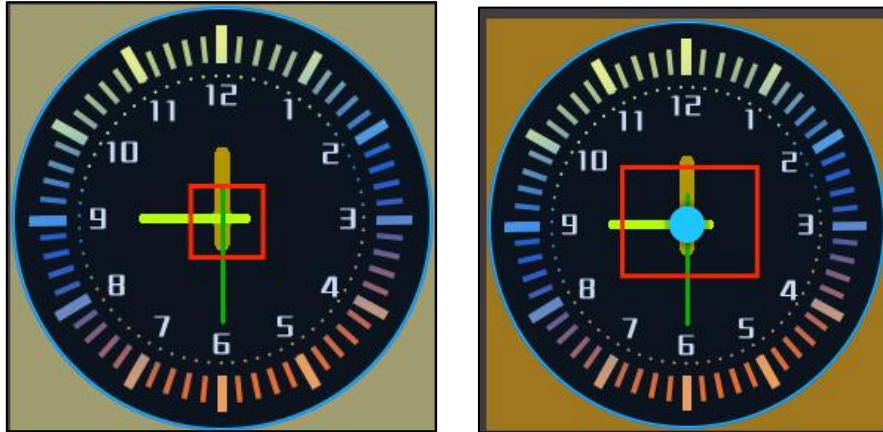

Figure 6-29: Example of Analog Clock
- centerIcon** : The center image of the analog clock. (e.g. the dot image shown in Figure 6-29)